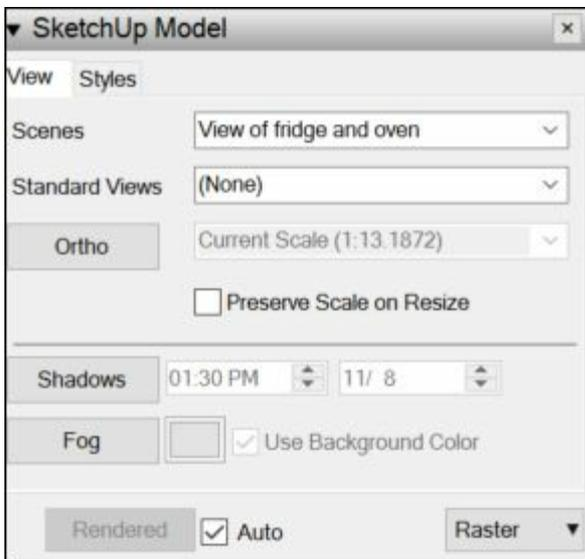

FIGURE 14-5: The SketchUp Model panel in LayOut.
- » On the SketchUp Model panel's View tab, shown in Figure 14-5, choose an option from the Scenes or Standard Views drop-down lists.